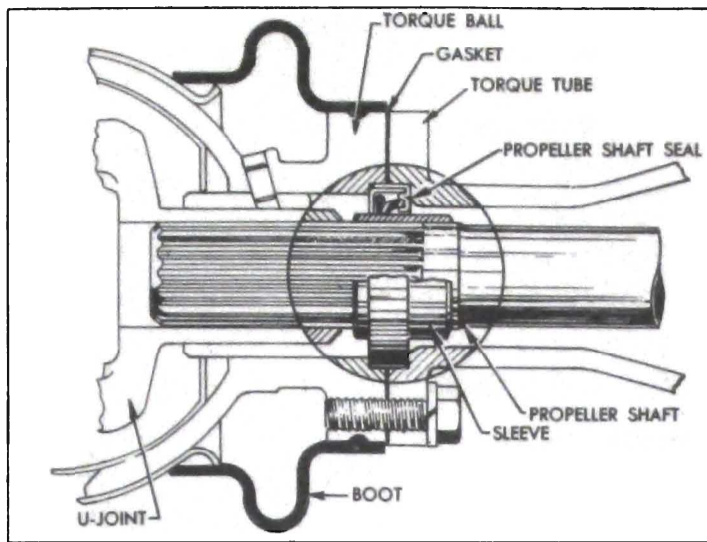

Figure 6-2—Propeller Shaft Seal
2. Check propeller shaft seal for oil leaks or damage. Cement a new gasket to torque tube front flange. See figure 6-2.